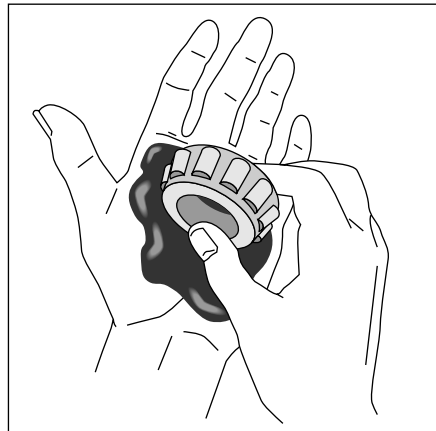

Figure 15-8: How to pack bearings with your bare hands.
8. Press the bearing into the gob of grease with the heel of your other hand (see Figure 15-8).